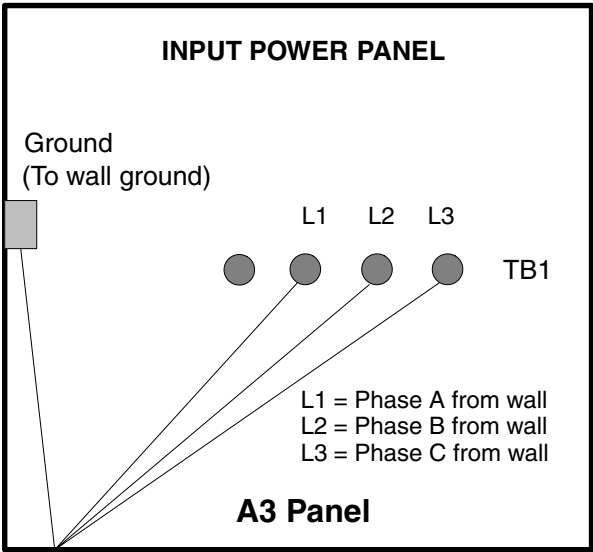

Figure 1-57 A3 Input Power Panel Connections
- 5.) Place cable lugs on the wires and attach as shown in Figure 1-57.